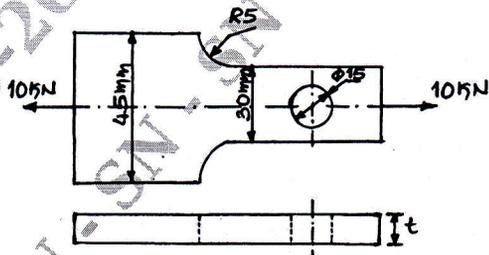

Fig.Q2(c) (10 Marks)
c. A flat plate as shown in Fig.Q2(c) is subjected to a tensile force of 10 kN. The plate material is grey cast iron FG200 ($\sigma_u = 200 \text{ N/mm}^2$) and factor of safety is 2.5. Determine the thickness of the plate.